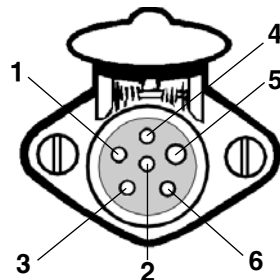

Figure 14
3. Loosen all of the set screws on the side of the socket, and connect the wires to the back of the socket, as shown in Figure 14. Or, wire the socket to match the existing wiring on the motorhome.
the six-wire cord, and connect the appropriate wires to the new socket, according to Figure 14.